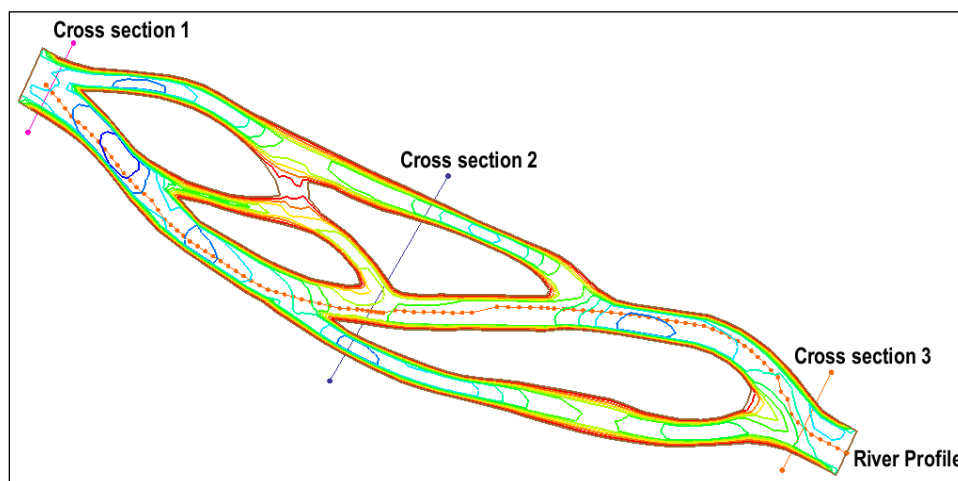

Figure 17 Profile and cross section arcs
10. Using the **Create Feature Arcs**  tool, create each of the three cross section arcs shown in Figure 17.
14. Enter “cs1” in the *Name* column for the “Cross section 1” arc (Figure 17).